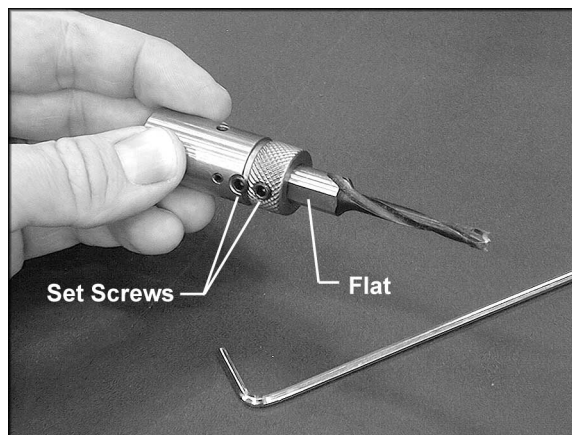

Figure 8
1. Make sure the two set screws on the chuck (Figure 8) are backed out far enough for the bit to be inserted. Push the shank of the boring bit into the knurled end of the chuck. Make sure the flat of the boring bit shank is toward the set screws, as shown in Figure 8.
2. Tighten both set screws on the chuck with a 2.5 mm hex wrench, shown in Figure 8.